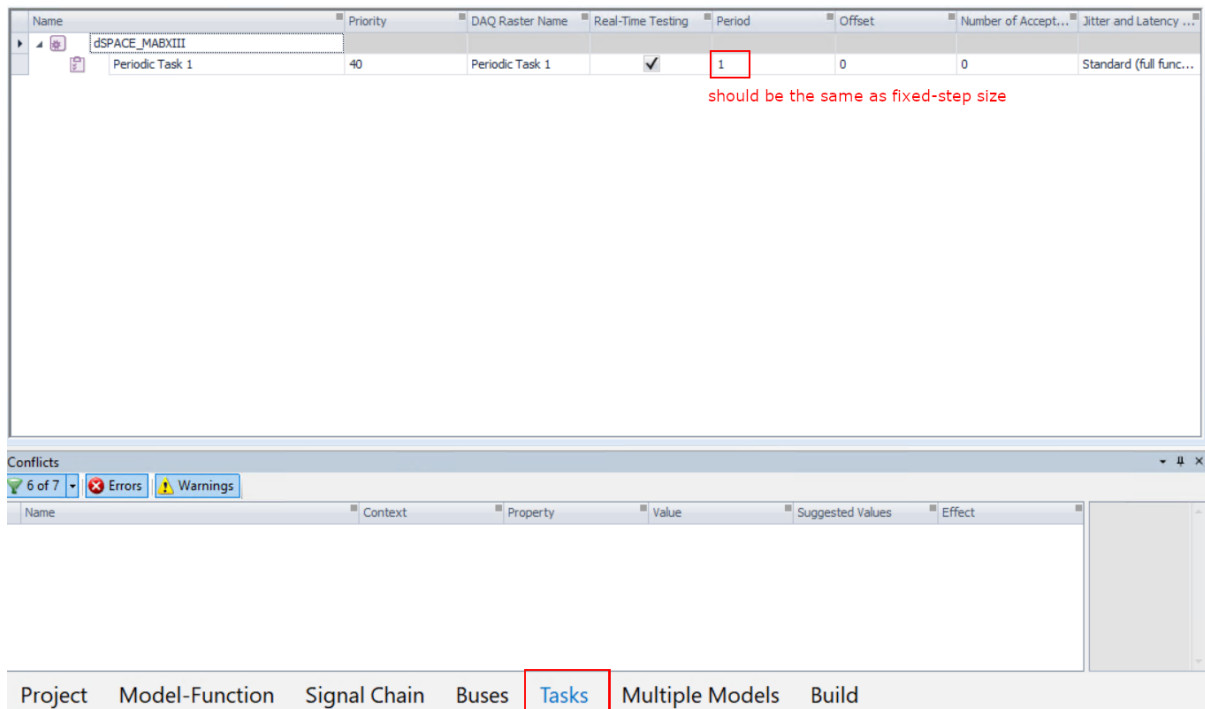

Figure 12.72: Set period of Periodic Task.
- 16) Go to the tasks tab and make sure the period of the Periodic Task matches the fixed step size selected in the Simulink model options (see Figure 12.72).